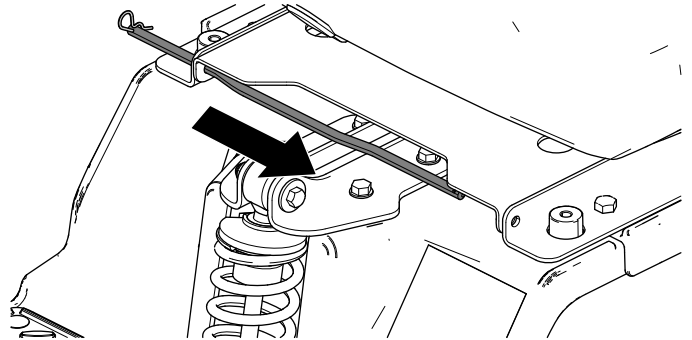

Figure 7
4. Install a hairpin cotter on 1 side of the seat-pivot rod, then slide the seat-pivot rod through the pivot bracket hole and seat pan hole (Figure 7).